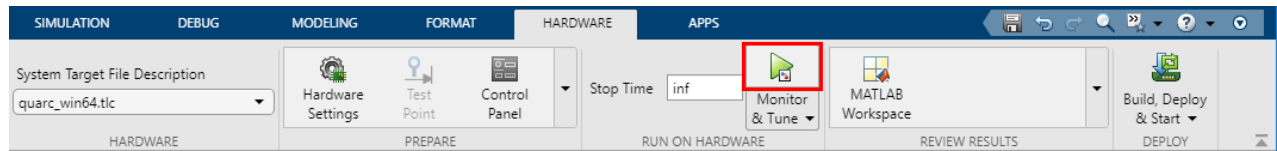

Figure 13: One step process for code generation, code deploy and Run Simulink (QUARC+QCAR) Model in External Mode
1. To build, download, connect, and start the model for real-time external operation, click the Monitor and Tune button on the HARDWARE tab (see Figure13)